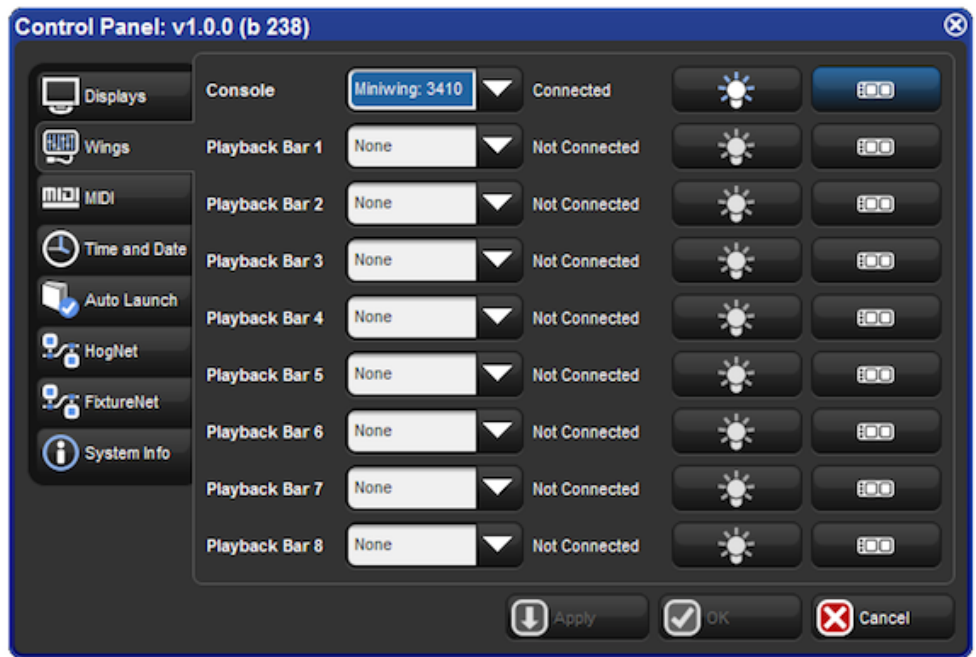

Figure 3.14. The Wings pane of the Control Panel with Playback Wing Mapping
2. Setup → Control Panel → Wings : open the Wings pane of the Control Panel window (see Figure 3.14, *"The Wings pane of the Control Panel with Playback Wing Mapping"*).